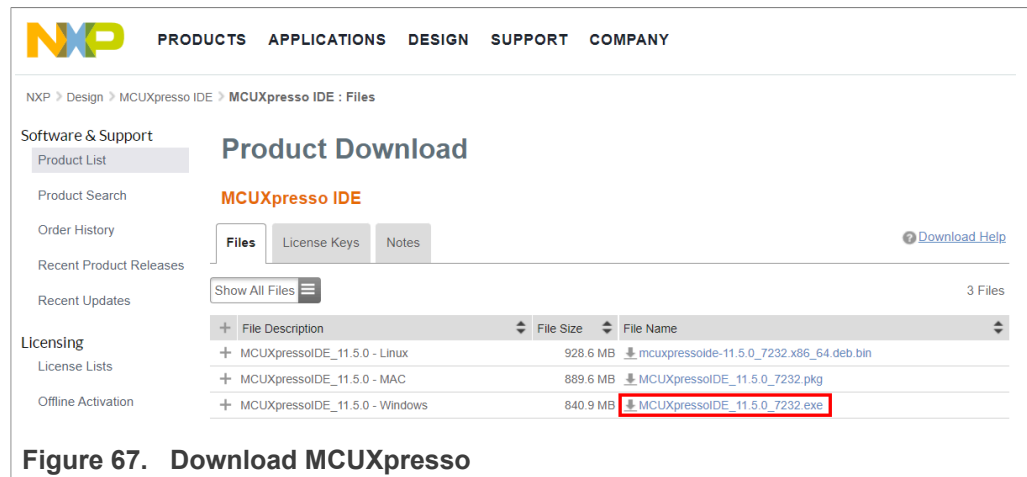

Figure 67. Download MCUXpresso
6. Select your MCUXpresso product version and click on the corresponding **File Name** to start the download as shown in Figure 67: